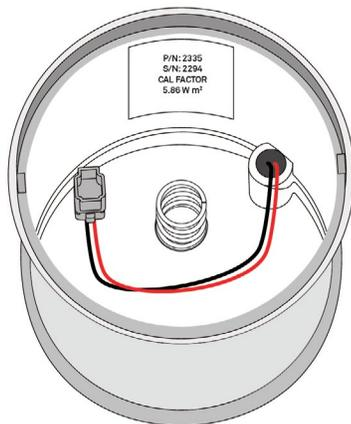

Figure 4. CAL Factor for new pyranometer sensor
8. Write down the calibration factor (CAL Factor) for the new pyranometer, located on the inside of the new funnel (Figure 4).